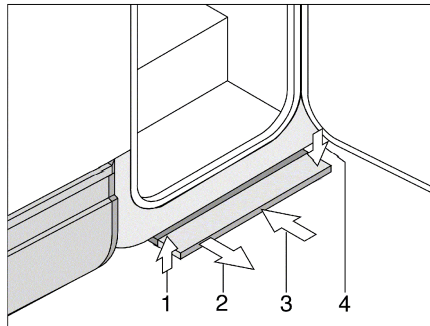

Fig. 6 Mechanically operated entrance step
Pulling out: ■ Pull the entrance step forwards (Fig. 6,2) until it latches into place.
Pushing in: ■ Slightly lift the entrance step (Fig. 6,1).
■ Push the entrance step as far as it will go under the base of the vehicle (Fig. 6,3). Ensure that the entrance step latches in place (Fig. 6,4).